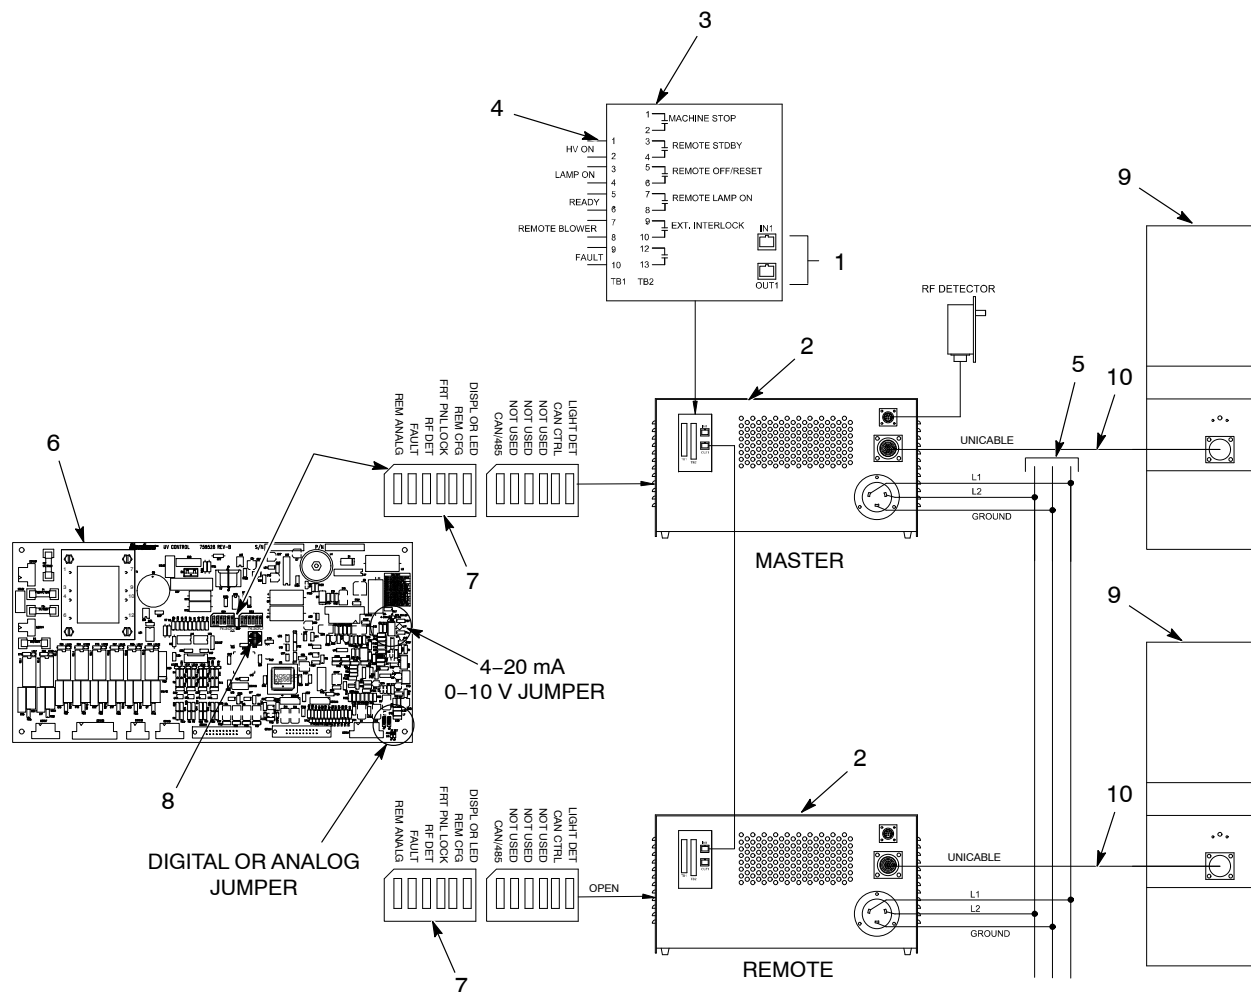

Figure 3-6 System Connections
Refer to Table 3-3 and Figure 3-6. Use the IN1 and OUT1 connectors (1) (shielded RJ45) to connect multiple units in a Master/Remote fashion. The connection cable is commercially available and should have a rating of CAT3 or higher. Repeat this for each unit.